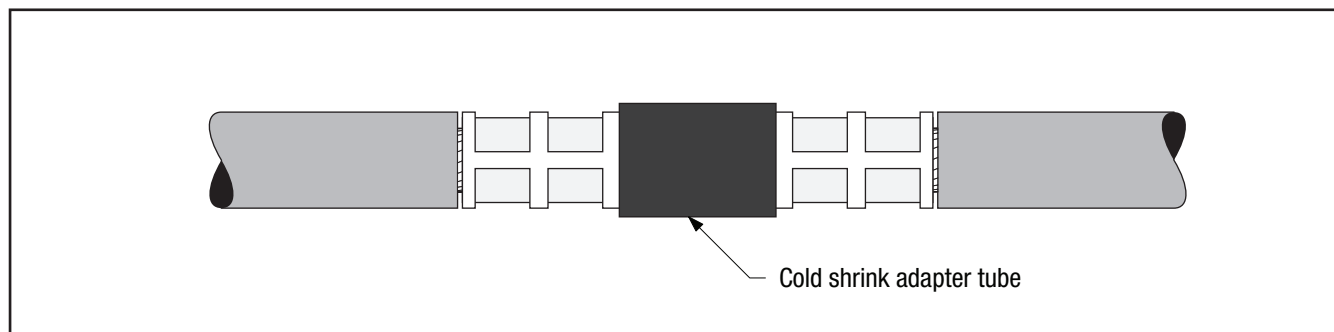

Figure 11
4.2 **If using cold shrink adapter tube:** Position adapter tube over the connector. Shrink adapter near the center of connector by pulling and unwinding the loose core end in a counterclockwise direction (*Figure 11*).